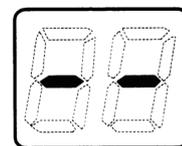

Fig. 1
STEP 2: Check that the display on all Four controllers is lit and displaying a temperature when switched on. If any ONE of the controllers displays two dashes (see Fig.1) in the display repeat STEP 1.